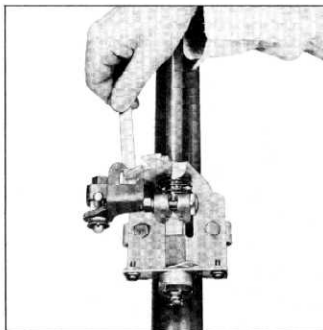

Fig. 146—Reverse Stop to Lower Lever Clearance
- With selector lever in reverse, check clearance between the reverse stop on control shaft lower support and lower lever (fig 146). This clearance should be .090".